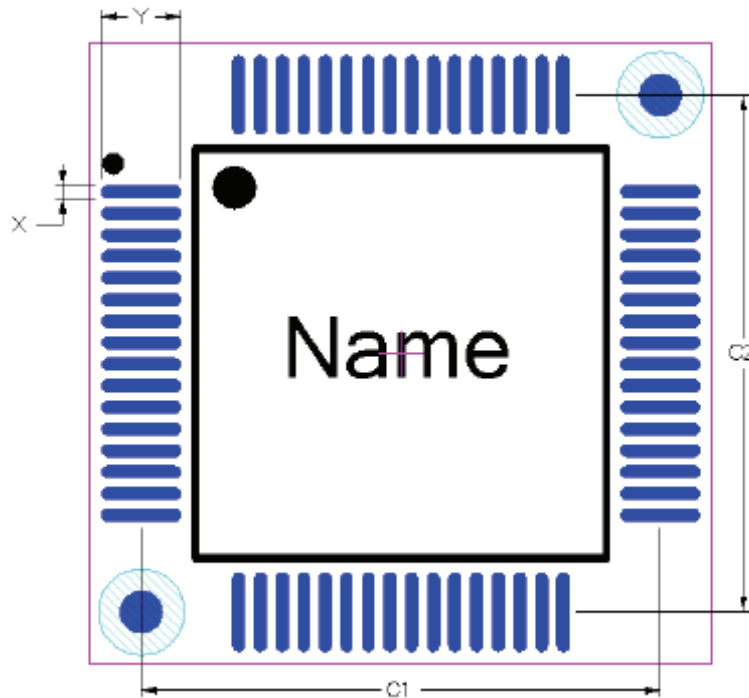

Figure 1
- Pin pitches, land size round-offs “X, Y” are on 0.05mm increments and land centers “C” are on 0.1mm increments. See Figure 1.